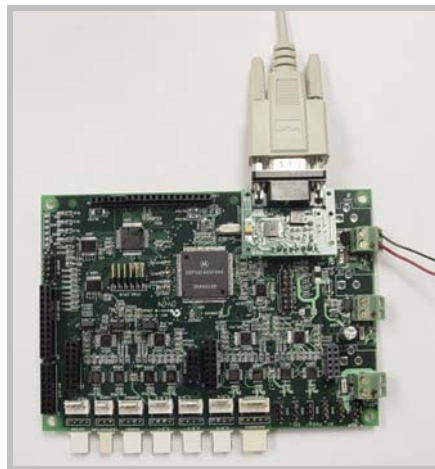

Figure I.5 Physical Connection
3. Use a null modem cable to connect the PC to PMS5005 with a RS232 Interface Module (MCR3210) as shown in Figure I.5. All peripheral modules (e.g. sensors, motors, LCD and etc.) can still be plugged to the PMS5005 without affecting the upgrade process